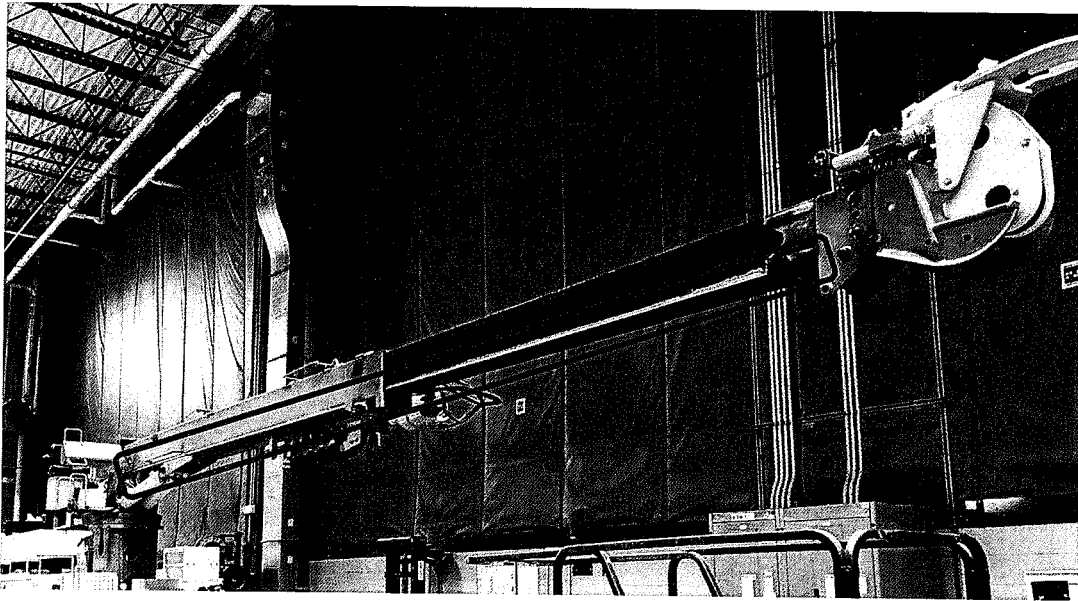

Figure 1. C4000, C5000, C6000, & C7000: Weld to Inspect
2. Within 10 days of receiving this bulletin, visually inspect the suspected specified boom seam welds for cracking, using Figures 1 through 6 as reference.
- i. Main boom lower right weld seam (when viewing the boom from the turntable end) – see Figure 1 for reference.
- ii. 2nd boom lower right weld seam (when viewing the boom from the turntable end) – see Figure 1 for reference.